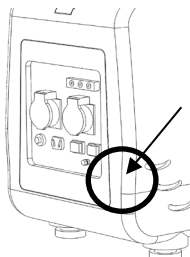

Fig. 1.6
- Hold an Angle Brace on a corner nearest to the electrical panel, slightly under the electrical outlets (Fig 1.6) with the grommet pins up and down.